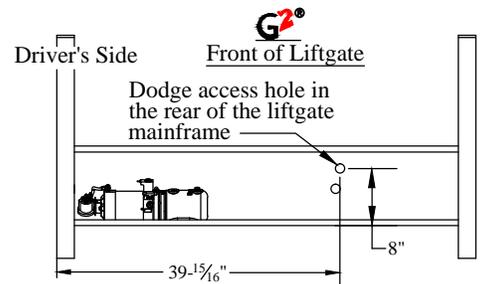

Figure 17: G2 spare tire access.
2. **Remove** the black plastic plug from the mainframe in the location shown (Figure 17).